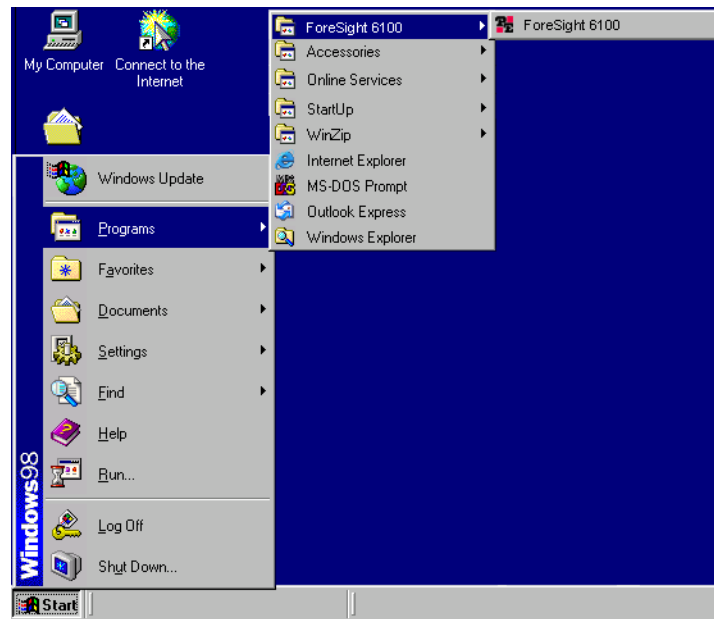

Figure 4. ForeSight 6100 application icon
1. Click on the **Start** button, then Programs > ForeSight 6100 and select ForeSight 6100 (see figure 4) to run the application.